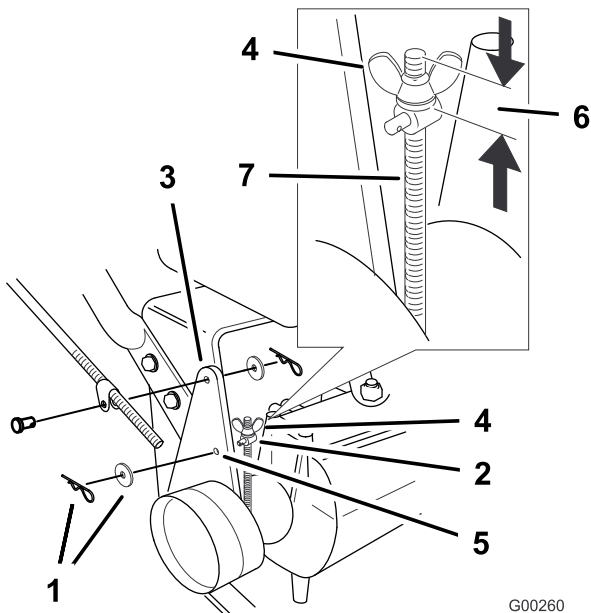

Figure 41
Note: For the initial adjustment, adjust the wing nut until it is 32 mm (1-1/4 inches) from the top of the rod (Figure 41).
6. To adjust the brake, remove the hair pin cotter and washer from the brake lever and trunnion (Figure 41).
9. Install the trunnion into hole F (Figure 41).
10. Secure trunnion to brake lever with washer and hairpin cotter (Figure 41).